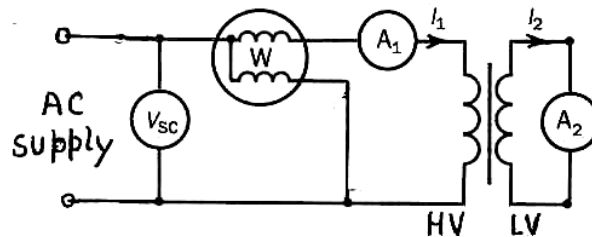

Fig. 13.25 Short-circuit test on a transformer.
This test determines the equivalent resistance and leakage reactance of the transformer. The connections are made as shown in Fig. 13.25. Generally, the LV side of the transformer is short-circuited through a suitable ammeter A_2 . A low voltage is applied to the primary (HV) side. This voltage is adjusted with the help of a variac so as to circulate full-load currents in the primary and secondary circuits. The reading of ammeter A_1 , I_{sc} , gives the full-load current in the primary winding. On the other hand, the core loss is negligibly small, since the applied voltage (and hence the flux) is less than about one-twentieth of the rated voltage. Hence the wattmeter reading, W_{sc} , gives the copper loss (P_c).